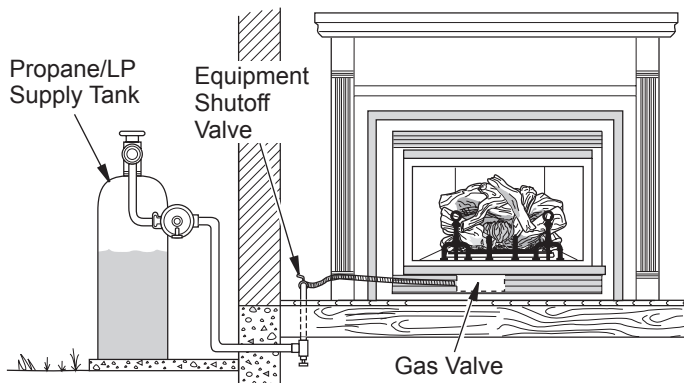
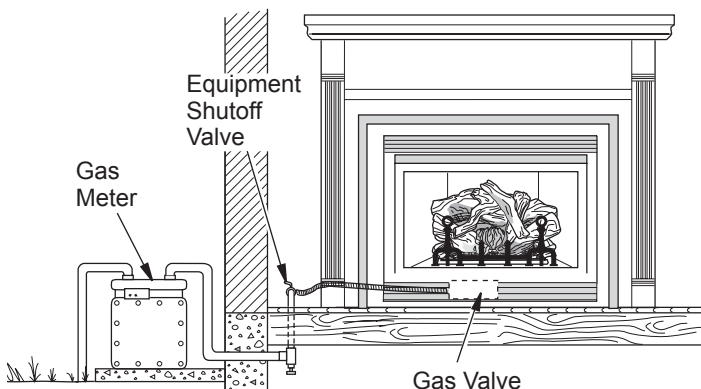

Figure 34 - Checking Gas Joints for Propane/LP Gas Fireplace
Figure 35 - Checking Gas Joints for Natural Gas Fireplace
3. Check all joints from propane/LP supply tank or gas meter to equipment shutoff valve (see Figure 34, for propane/LP or Figure 35, for natural gas). Apply noncorrosive leak detection fluid to all joints. Bubbles forming show a leak. Correct all leaks at once.
4. Check all joints from equipment shutoff valve to gas valve (see Figure 34 for propane/LP or Figure 35 for natural gas). Apply noncorrosive leak detection fluid to all joints. Bubbles forming show a leak. Correct all leaks at once.